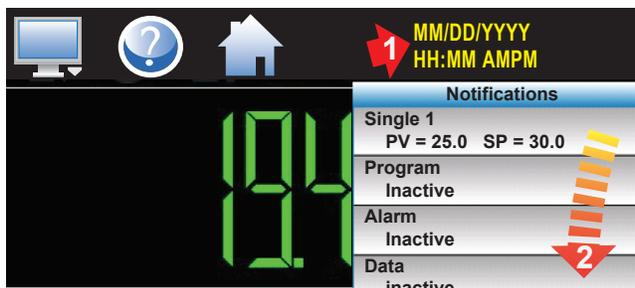

Figure 20. Notifications List
Touch: (1) yellow time/date to open a drop-down list. Swipe (2) down-up to view the whole list. Touch (1) time/date to close the list (Figure 20).